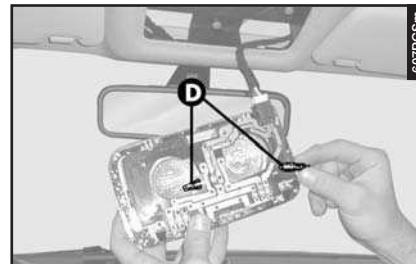

fig. 70
- Remove and replace the bulb concerned (**D**-fig. 70) (tubular with bayonet coupling), pushing gently and turning counter-clockwise.